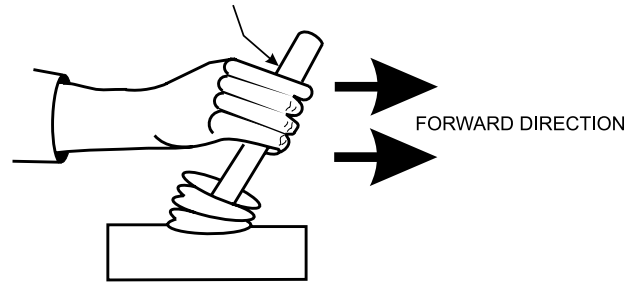

Figure 13. Joystick Control Forward Direction
2. Push both the left and right joysticks forward (Figure 13).